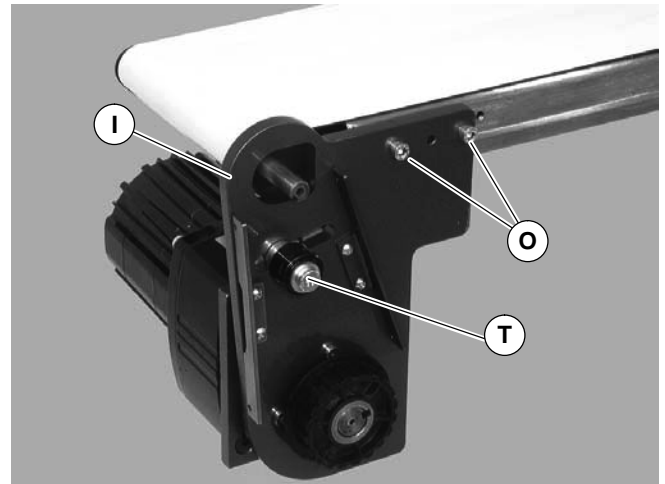
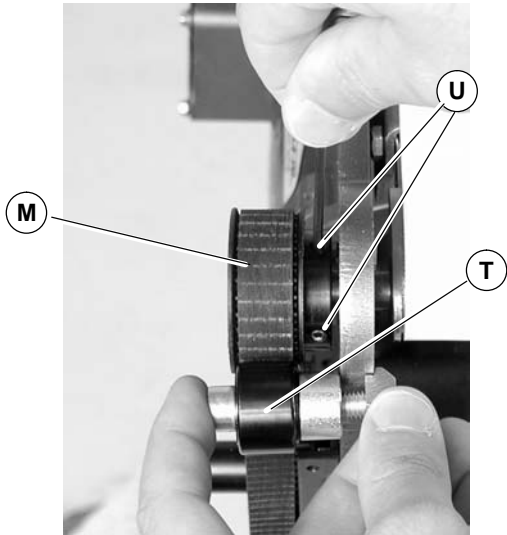

Figure 10
Figure 12
4. Attach mounting assembly (I of Figure 10) with screws (O). Tighten to 80 in-lb (9 Nm).
- Remove cam bearing and spacer (T of Figure 10). Place the cam bearing and spacer (T of Figure 12) next to the driven pulley (M). Ensure the flanges of the driven pulley are aligned with the cam bearing. Tighten driven pulley set screws (U). This will allow for proper belt alignment while conveyor is in use. Replace cam bearing and spacer (T).